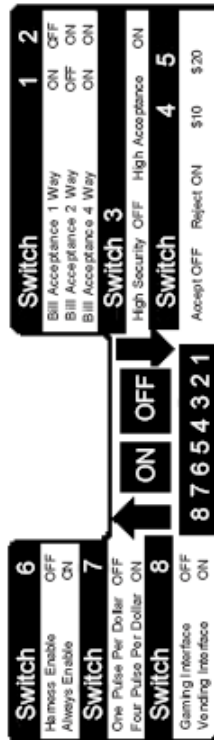

Figure 2
### 1. Set Bill Acceptor option switches. See Figure 2.
**Important note:** Placing any switch ON will override the above options, and the Bill Acceptor will operate according to the switch settings label! (See Figure 2)
- Ensure that proper credit was given, if not, reconfigure the AE2600, using coupon or switch 7 & 8 , for correct interface and correct number of pulses (see figure 2 on page 2).